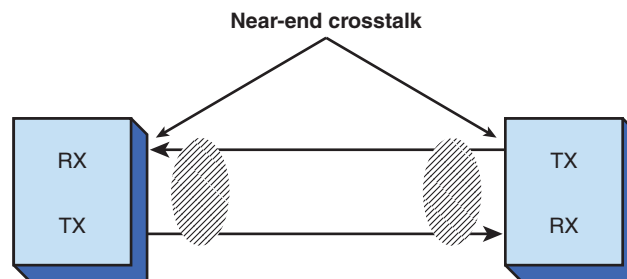
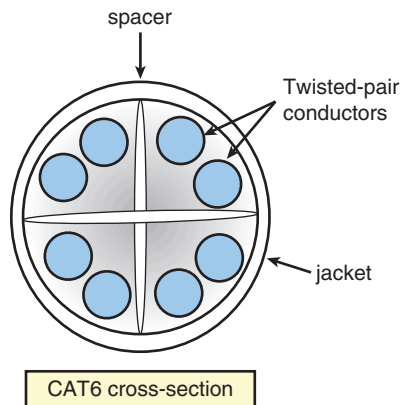

FIGURE 2-29 A graphical depiction of near-end crosstalk.
FIGURE 2-30 A cross-section of a CAT6 cable, showing the separator used to minimize crosstalk problems.
- Figure 2-29 graphically depicts NEXT. The shaded areas show where the near-end crosstalk occurs. The margin is the difference between the measured value and the limit. A negative number means the measured value is less than the limit, and therefore the measurement fails. Crosstalk is more problematic at higher data rates (for example, 1Gbps, 10Gbps) than at lower rates. Figure 2-30 shows that CAT6 cable has a built-in separator to help minimize crosstalk among wire pairs. This separator is used to keep each wire pair a minimum distance from other wire pairs. This separator reduces crosstalk at higher frequencies and helps provide improved signal bandwidth; the cable therefore supports faster data rates. This separator also helps improve the far-end crosstalk. Note, however, that not all cable manufacturers use separators.